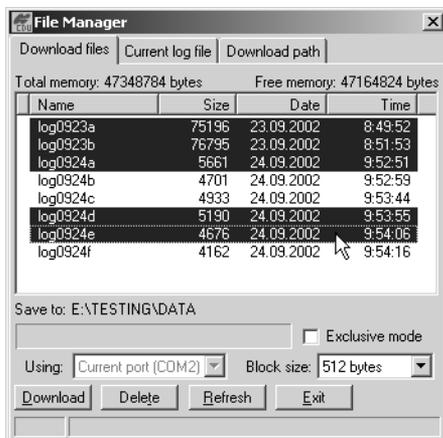

Figure 4-5. Download Files
- Select the file(s) you want to download (Figure 4-5 on page 4-12).